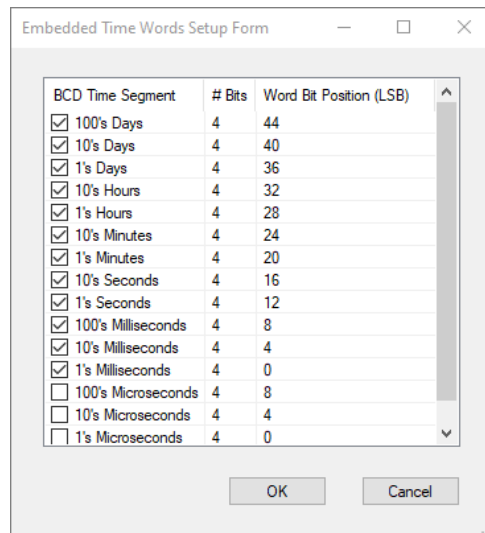

Figure 152 – Embedded Time Word Setup
- Open the embedded time word setup screen by clicking the Setup button. The embedded time words setup form will be displayed. (See Figure 152 – Embedded Time Word Setup.)